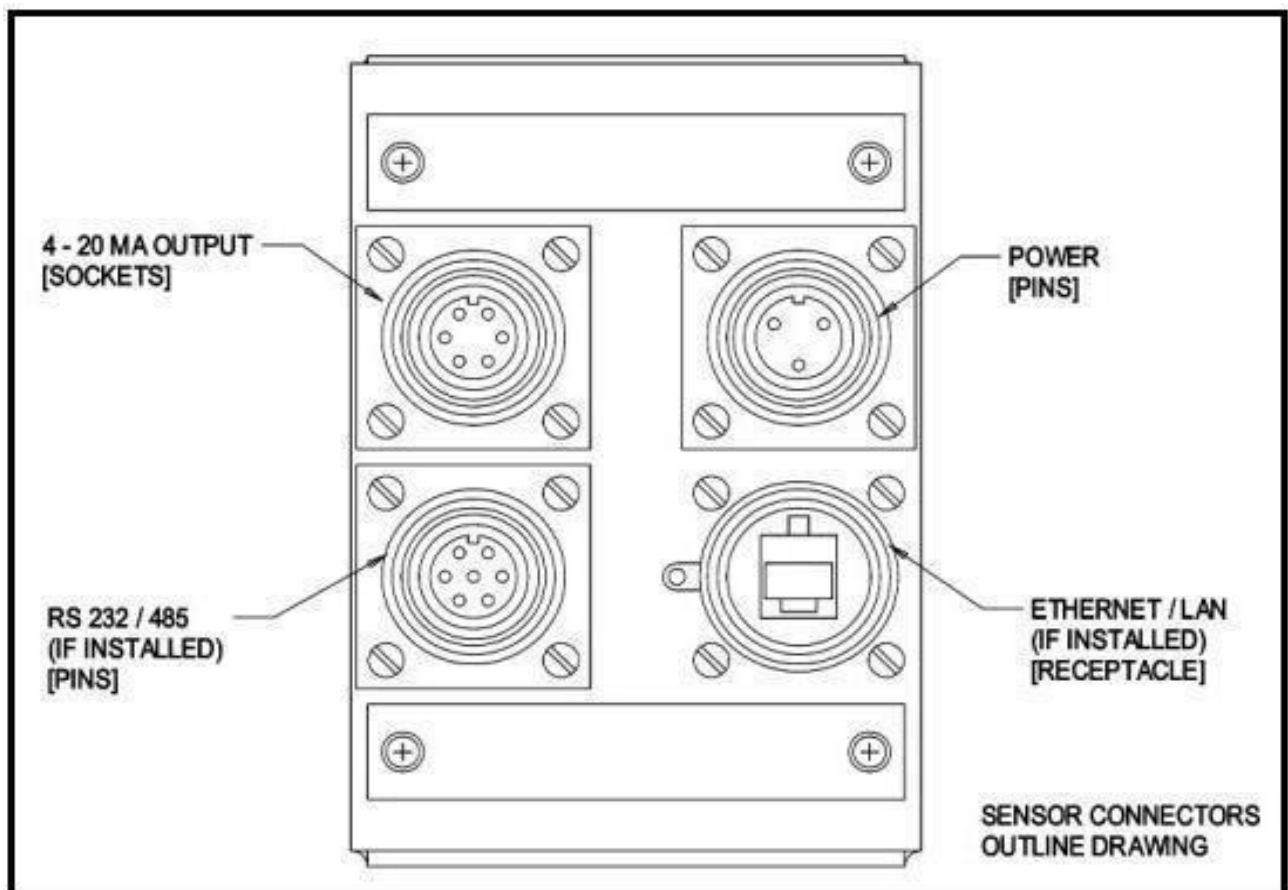

Figure 4. Electrical Connections on Rear of Gauge
- Figure 4: Electrical Connections on Rear of Gauge
In Figure 4, the rear connector panel of the gauge is shown. The standard connectors provided are Bulgin Buccaneer Low Profile Flange Mounting type for water and dust protection to NEMA4 specifications when mated to a Bulgin Flex Cable connector or Cover Cap.